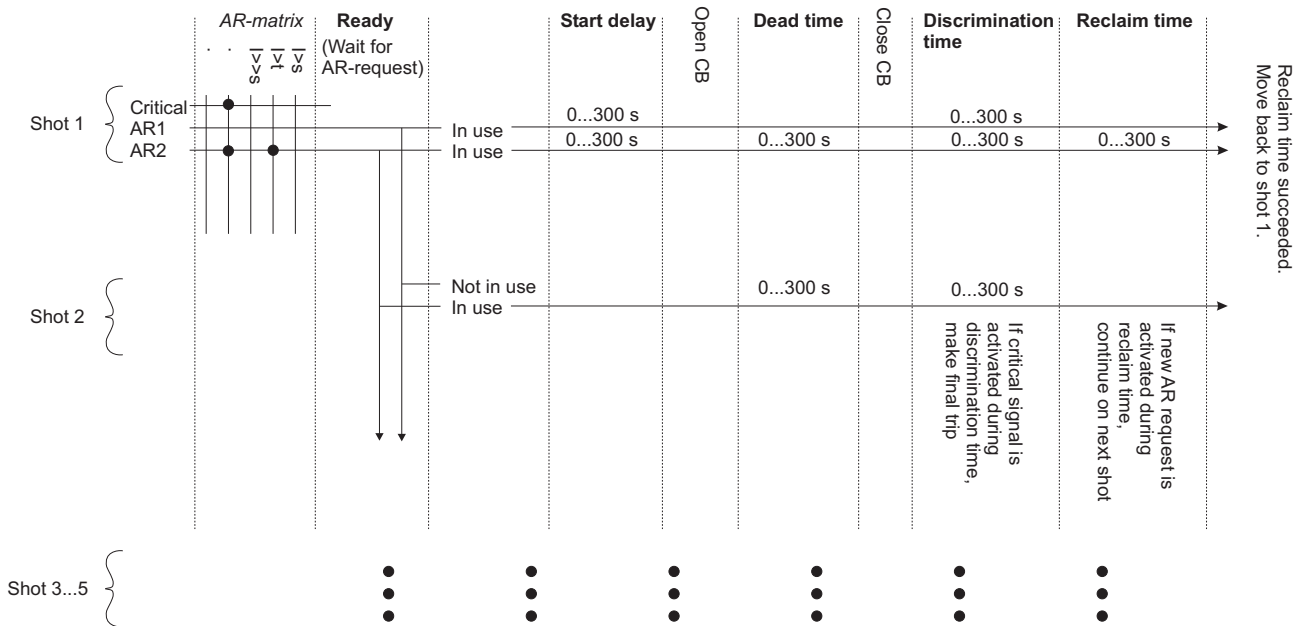

Figure 4.16: Auto-reclose matrix
The auto-reclose (AR) matrix in the following Figure 4.16 describes the start and trip signals forwarded to the auto-reclose function.